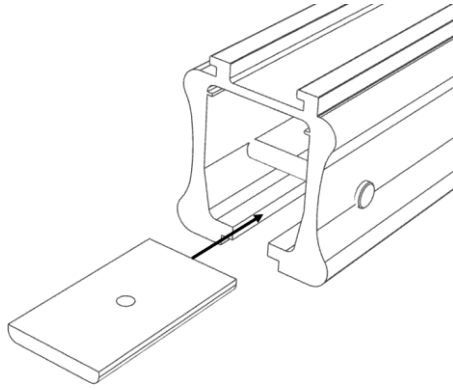

Figure 224: ***Insert the Steel Connecting Plate***
40. Insert the steel connecting plate into each end of the track (Figure 224).